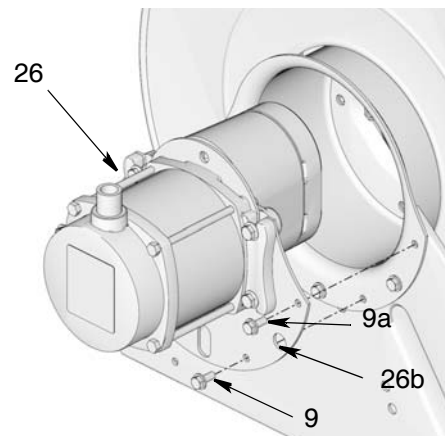

FIG. 9: Electric Motor Shown
- b. Insert shaft of motor module into power shaft (20). Rotate spool as needed to align shaft splines (FIG. 9).
- c. Install 4 mounting bolts (9) finger tight only.
- d. Support end of motor to align sheet metal mounting plate (26b) on motor module (26) to reel frame.